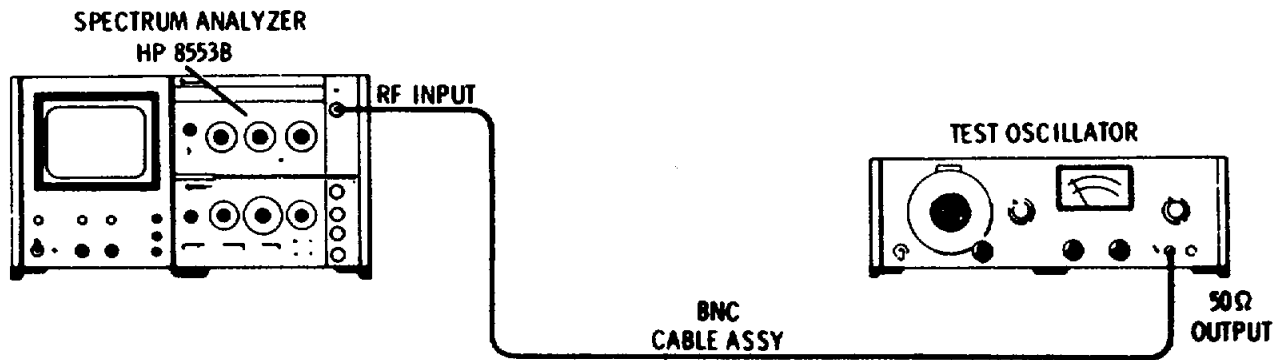

Figure 4-10. Frequency Response Test: 1 kHz to 10 MHz
- To check the analyzer frequency response from 1 MHz to 10 MHz, connect the test setup as shown in Figure 4-10. Make the following control settings: